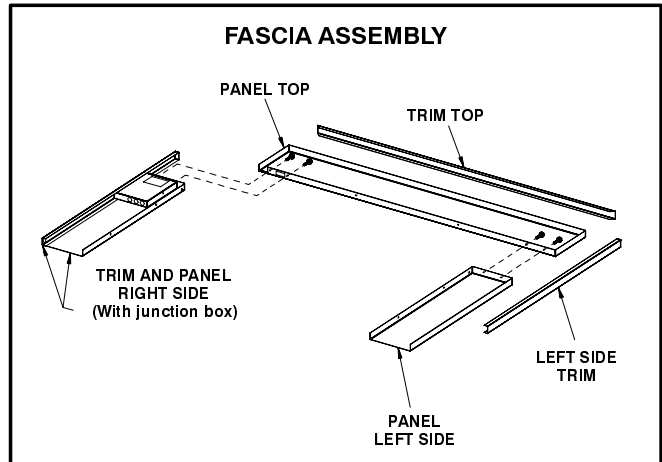

FIGURE 4
- 2 – Align junction box securing screws in the right panel with the rectangular cut-outs in the top panel. Slide top panel under the brass trim of the right panel. Secure using two screws provided. See figure 4.